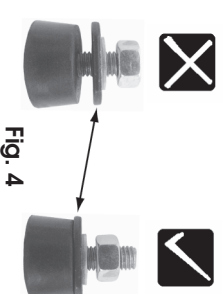

Fig. 4
1. check and adjust if necessary all four foot assy's are set as shown in Fig. 4.